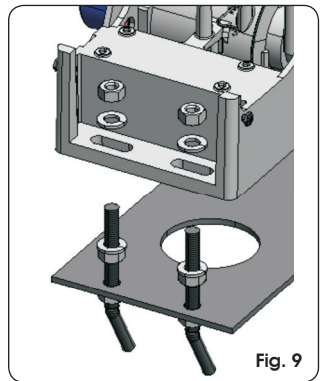

Fig. 9
- ④ Fit the operator on the plate, using the supplied washers and nuts as shown in Fig.9.